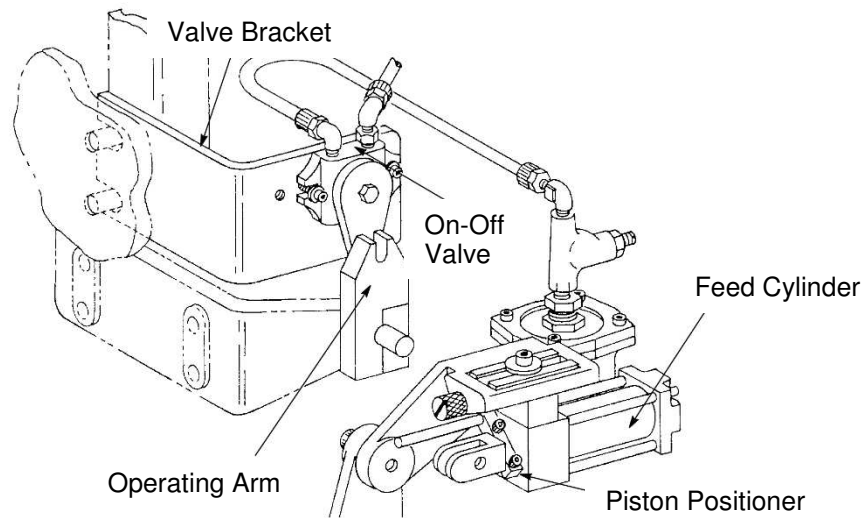

Figure 4
- (1) Loosen screw on top of pivot block.
- (2) Turn stroke forward limit adjustment screw COUNTERCLOCKWISE to move forward limit toward anvil, or CLOCKWISE to move forward limit away from anvil.
- (3) Tighten screw on top of pivot block.
b. Applicator with air feed systems (see Figure 4)
- (1) Loosen 3/4-in. hex nut slightly to allow pivot shaft to move in slot.
- (2) Loosen locknut on stroke length adjustment screw, and turn screw CLOCKWISE to SHORTEN stroke or COUNTERCLOCKWISE to LENGTHEN stroke. Tighten locknut.
- (3) Confirm that pivot shaft bushing is UP AGAINST stroke length adjustment screw, then tighten 3/4-in. hex nut. Repeat Step 5 to check for proper stroke length.
- b. Applicator with air feed systems (reference Figure 4)
- (1) With machine at rest and feed finger extended, loosen two screws holding positioner to feed cylinder shaft and move positioner in required direction on shaft.
- (2) Re-tighten screws.
- (3) Repeat Step 5 to check stroke length.